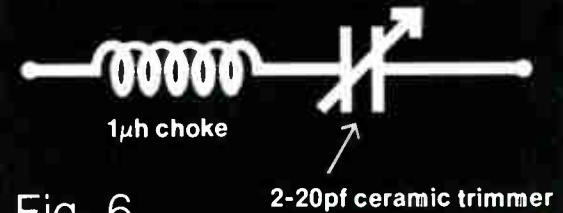

Fig. 6
1. Second harmonic interference from a CB transmitter to Channel 2 television may exist even though the transmitter meets FCC specifications for harmonic radiation. In such cases, a tuned filter across the antenna terminals of the television should help. The filter may be an inductor and capacitor in series as in Figure 6. The filter should be tuned for minimum interference.